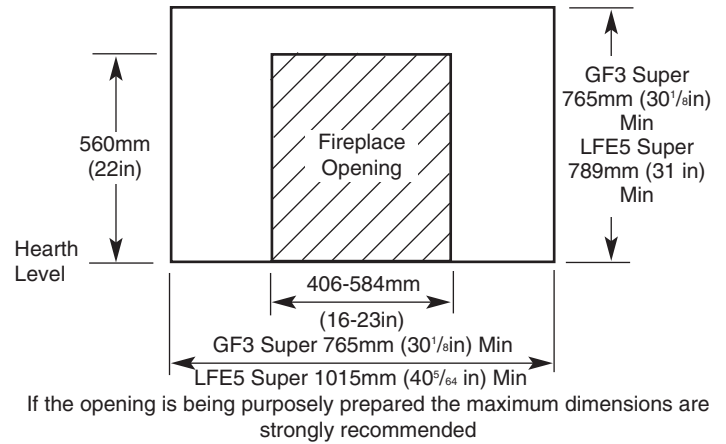

Fig. 1 Fireplace Opening
### Fireplace opening: (Fig.1)
**Surround or Wall Finish:** (Figs.1 and 2) The wall behind the fire must be non-combustible. The surround or wall finish must have a flat vertical area centrally placed about the opening measuring a minimum of 789mm (31in) high by 1015mm (405/16in) wide for LFE5 Super and 765mm (301/8in) high by 765mm (301/8in) wide for GF3 Super. If a surround is fitted any gaps between it and the wall must be sealed and it must have a rating of 100°C or higher.